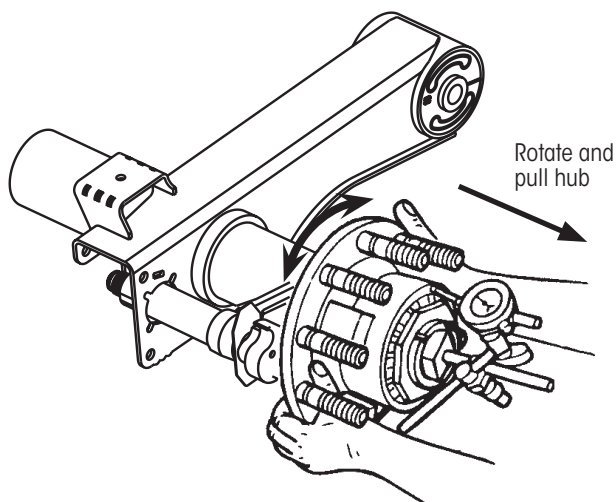

Figure 6: Checking outward end-play
9. While still grasping hub (Figure 6), **pull hub outward while rotating** hub slightly in both directions (between two hub cap fastener holes) until dial indicator reading remains constant. **Record** reading.